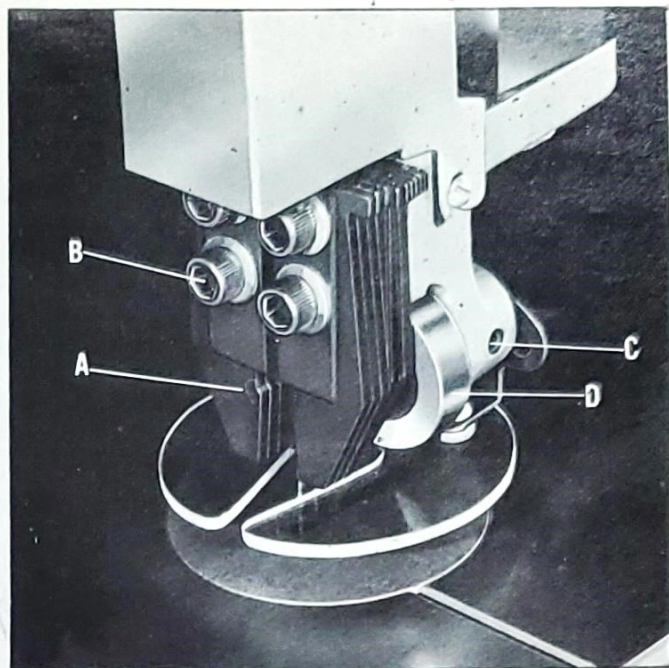

Fig. 5
The upper and lower blade guides are adjusted only after the blade is tensioned and is tracking properly. The upper and lower blade guide plates (A) Figs. 5 and 6, are permanently assembled to the blade guide bracket and are individually adjusted to the blade depending on the blade width as follows:
1. Loosen the eight socket cap screws (B) Figs. 5 and 6, and adjust the necessary number of guide plates (A) until the front edge of the guide plates are just behind the bottom of the saw blade tooth gullets, leaving all of the set portion of the blade free of the guide. Then tighten the socket cap screws (B). NOTE: This adjustment is critical since the teeth of the blade will be damaged if the guide plates are too far forward. If the guide plates are too far back the blade will not be adequately supported.
2. The upper and lower blade guide plates (A) Figs. 5 and 6, should be parallel to each other and as close as possible to the blade without binding it. Rotate the upper wheel by hand, causing the entire length of the blade to pass through the guide plates. This is done to be sure the weld or braze (where extra thickness may be found) will not bind. If necessary, separate the guide plates to accommodate the extra thickness.
1. Loosen the bearing support screw (C) Fig. 5, and adjust the support bearing (D) to within $1/64''$ of the blades rear edge. In essence, the blade support bearing (D) Fig. 5, should be adjusted as closely as possible to the rear edge of the blade so as not to rotate whenever the blade is running free without cutting. When the blade is cutting it will be pushed back to the rear and the support bearing will then rotate.